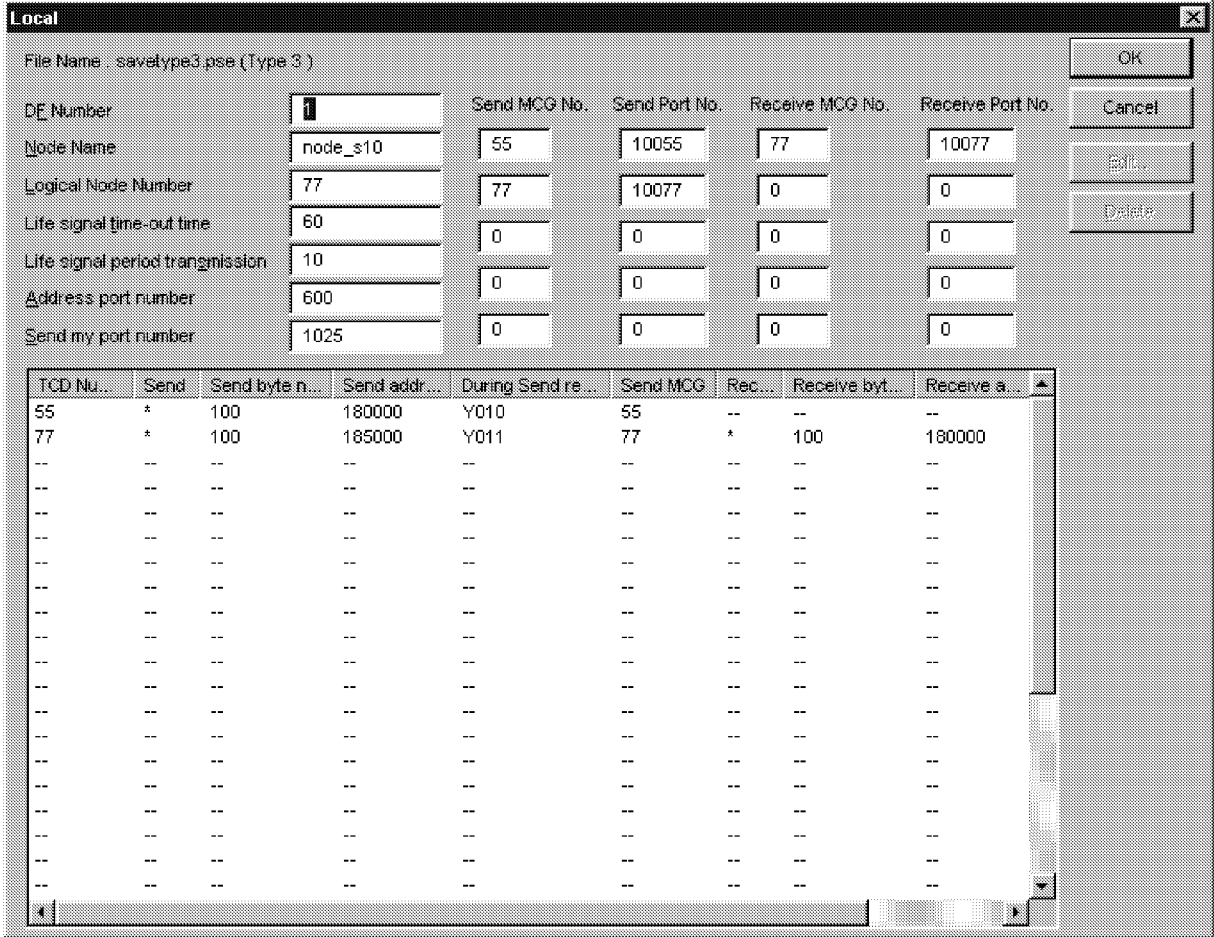

Figure 5-21 [Local] Window (DF Setup, Offline)
- (4) The [Local] window (DF setup, offline) as shown in Figure 5-21 opens. This window is the same as the [Local] window shown in Figure 5-3 in “5.2 Main/Local DF (Sub/Local DF),” except that a File Name and file type are displayed. Therefore, see the associated description in Section 5.2 for details.